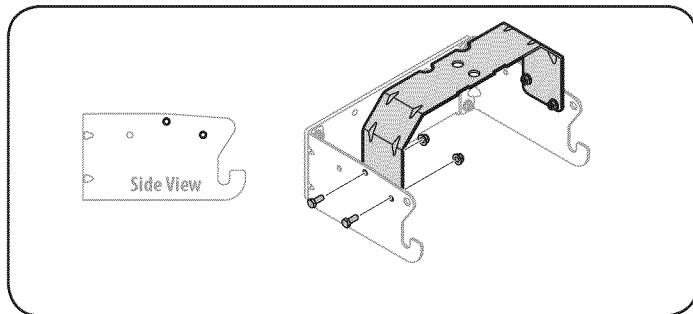

Figure 4
- **IMPORTANT:** Mount the hitch support using the holes closest to the mounting hooks. See Figure 4.